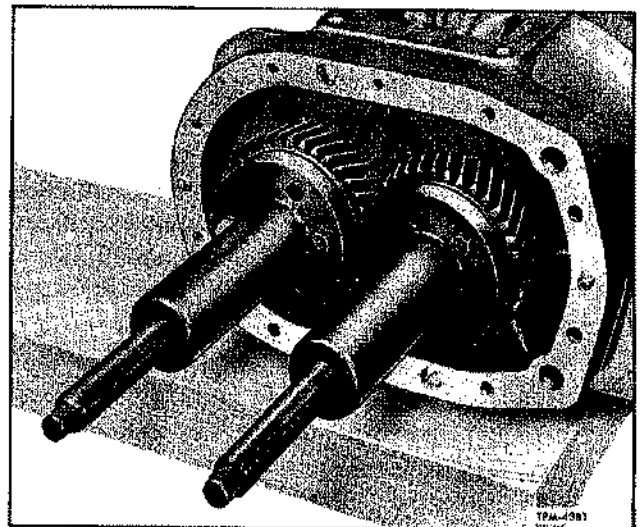

Figure 7—Removing Blower Rotor Gears
2. Install puller tool 6270-1 at each rotor drive gear in manner illustrated in figure 7, then turn puller bolts uniformly so that both gears are withdrawn from rotor shafts simultaneously.